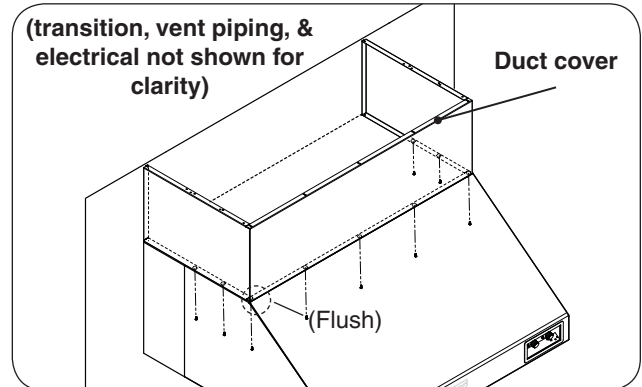

Fig. 18-2 Install Fire Magic Duct Cover
1. Carefully slide the duct cover into the area above the already installed spacer and vent hood. Ensure the bottom perimeter of the duct cover rests flush with the spacer and vent hood. See Fig. 18-2.
2. From beneath the vent hood, use a medium Phillips screwdriver and the 8-32 x 3/8" screws supplied with the duct cover to secure it to the vent hood. (The screws are to be fastened through the pilot holes found on top of the vent hood and into the duct cover above.) See Fig. 18-2.